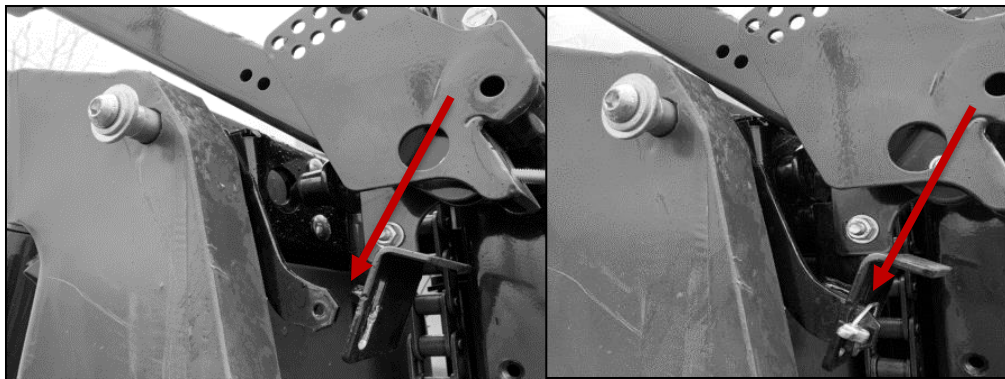

**Figure 14: RED rear connection point.**
12.2.3. Place RED assembly into connection point and reinstall pivot pin and lynch pin (Figure 14).